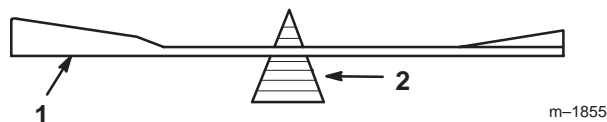

Figure 18
2. Check the balance of the blade by putting it on a blade balancer (Fig. 18).